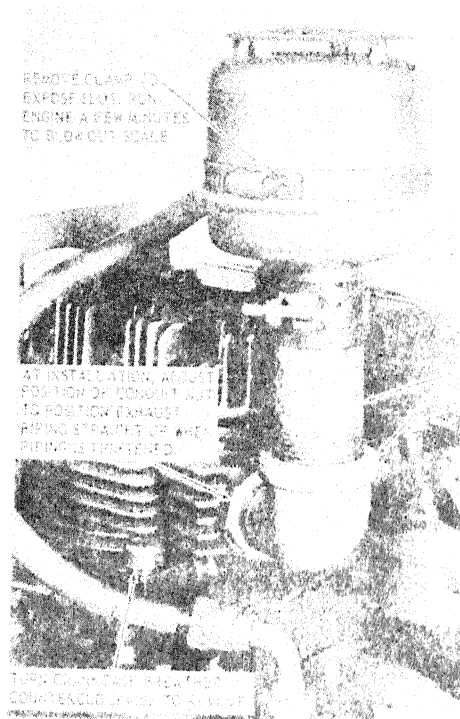

Figure 29. Muffler, exhaust piping and breather, removal and installation.
*a. Service.* Refer to figure 29 and service the muffler.
*b. Removal.* Refer to figure 29 and remove the muffler and piping.
- (1) Clean the exhaust system parts with an approved cleaning solvent. Take care to remove carbon from inside of piping and muffler.
- (2) Inspect the muffler for cracks, dents, holes, thin walls, and other damage.
- (3) Inspect all other parts for cracks, worn or damaged threads, corrosion, excessive heating, and other damage. Replace all damaged parts.
*d. Installation.* Refer to figure 29 and install the muffler and piping.
*a. Removal.* Refer to figure 29 and remove the crankcase breather.
- (1) Clean the crankcase breather by immersing in an approved cleaning solvent; shake dry.
- (2) Inspect the breather for visible damage. The breather cap must be free on the top of the breather. Blow through the breather with compressed air to assure that the passage through the breather is free.
*c. Installation.* Refer to figure 29 and install the crankcase breather.